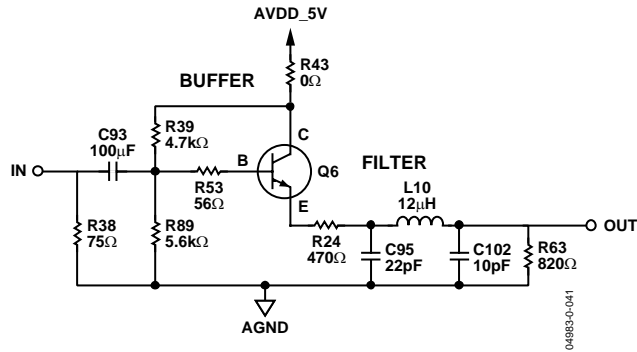

Figure 45. ADI Recommended Anti-aliasing Circuit for All Input Channels
For inputs from some video sources that are not bandwidth limited, signals outside the video band can alias back into the video band during A/D conversion and appear as noise on the output video. The ADV7189B oversamples the analog inputs by a factor of 4. This 54 MHz sampling frequency reduces the requirement for an input filter; for optimal performance it is recommended that an antialiasing filter be employed. The recommended low cost circuit for implementing this buffer and filter circuit for all analog input signals is shown in Figure 45.
- Place a 1 MΩ shunt resistor across pins XTAL1 and XTAL2 as is shown in Figure 45.
Examples of how to connect the ADV7189B video decoder are shown in Figure 45 and Figure 46. For a detailed schematic diagram for the ADV7189B, refer to the ADV7189B evaluation note.